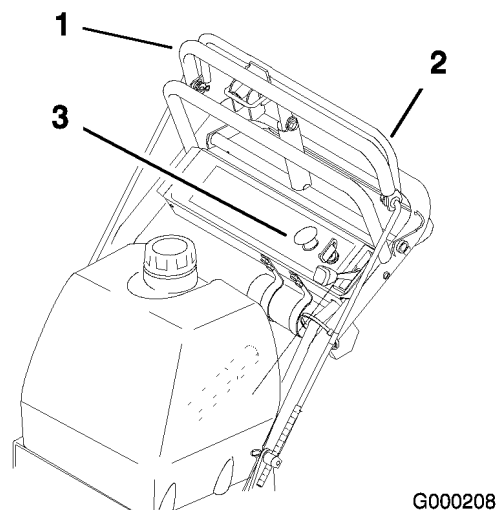

Figure 20
1. Release the upper control bar to stop the machine (Figure 20).
2. To engage blade, squeeze blade control bail against the upper control bar (Figure 20).
Release the blade control bail to disengage the blades (Figure 20).